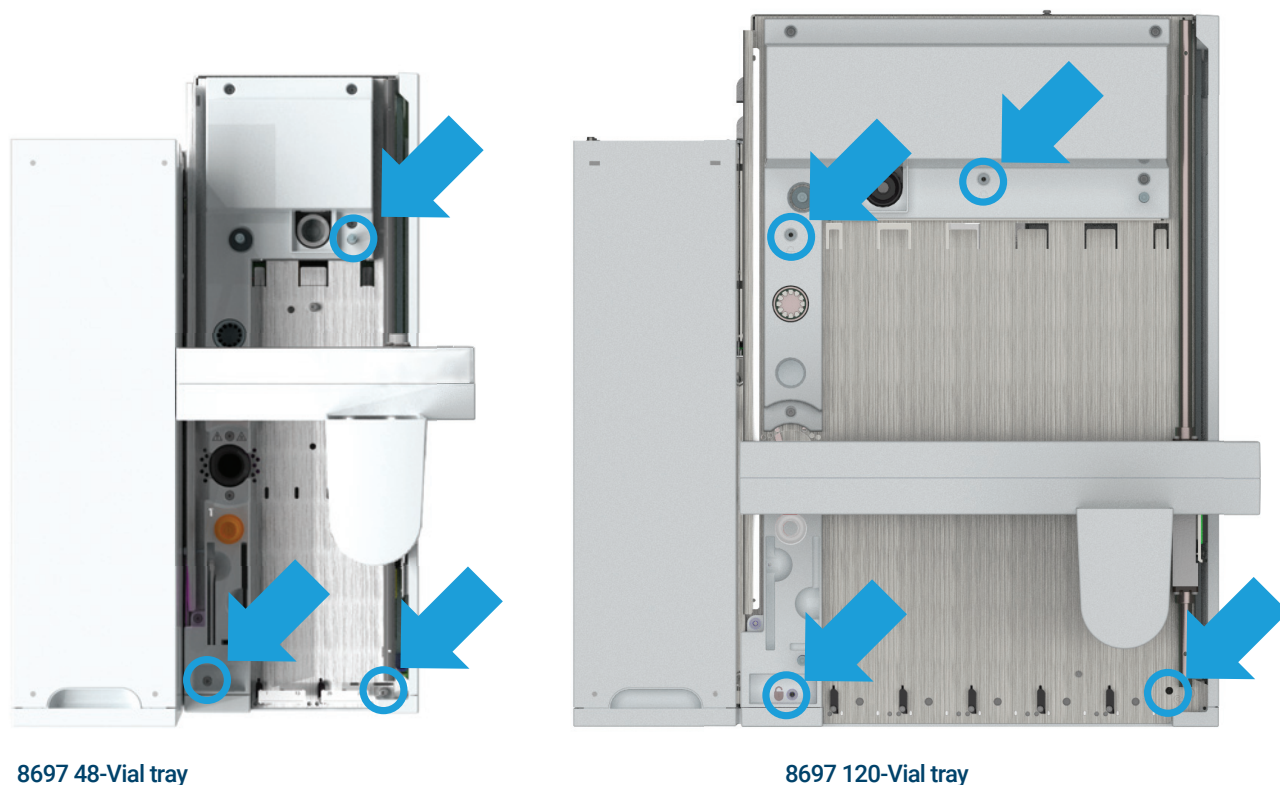

Figure 10. Loosen retained screws
- 7 Loosen the screws that secure the tray to the mainframe. (Figure 10)